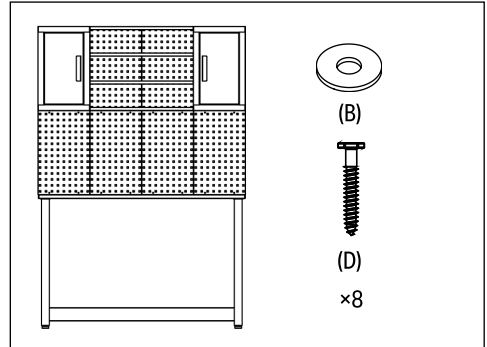

Fig. 10
3. Open both wall cabinet doors. Then fix the cabinet assembly to the wall using 8 × M5 hex tapping bolts (D) and flat washers (B). It is recommended that 2 people assist in this step (Fig.10).